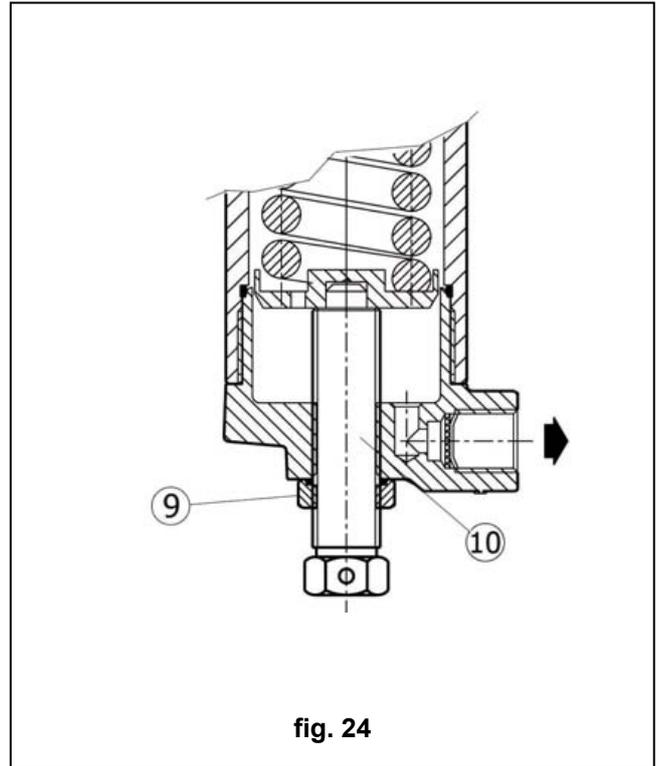

fig. 24
- 3) Completely increase the setting of the pilot 3 by turning the screw 10 clockwise (fig. 24).
- 15) Adjust the setting by alternately adjusting the regulating AR100 valve and the 30./... pilot so that the value of the set pressure is obtained with the minimum opening possible of the AR100 valve; then block the screw 10 of the pilot with the provided nut 9 (fig. 24).